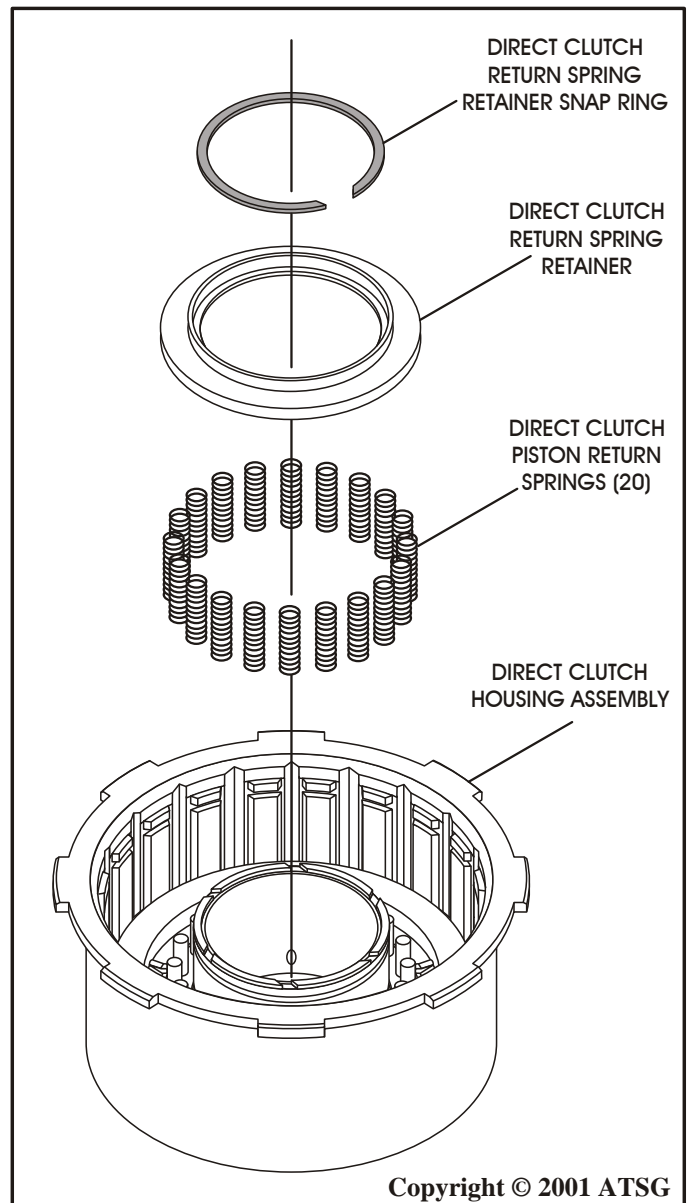

Figure 78
10. Install the direct clutch piston return springs on the direct clutch piston, as shown in Figure 78.
11. Install the direct clutch return spring retainer on top of return springs, as shown in Figure 78.
12. Carefully compress the retainer and the return springs and install the retaining snap ring, as shown in Figure 78.